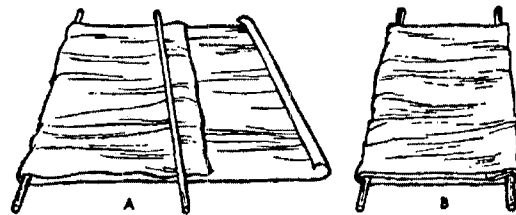

Fig. 30—Improvised Litter
- (1) If no litter is available, one may be improvised. Use a cot or door, or use two poles with a blanket as shown in Fig. 30; a strong sheet, rugs, or coats may be substituted for the blanket.